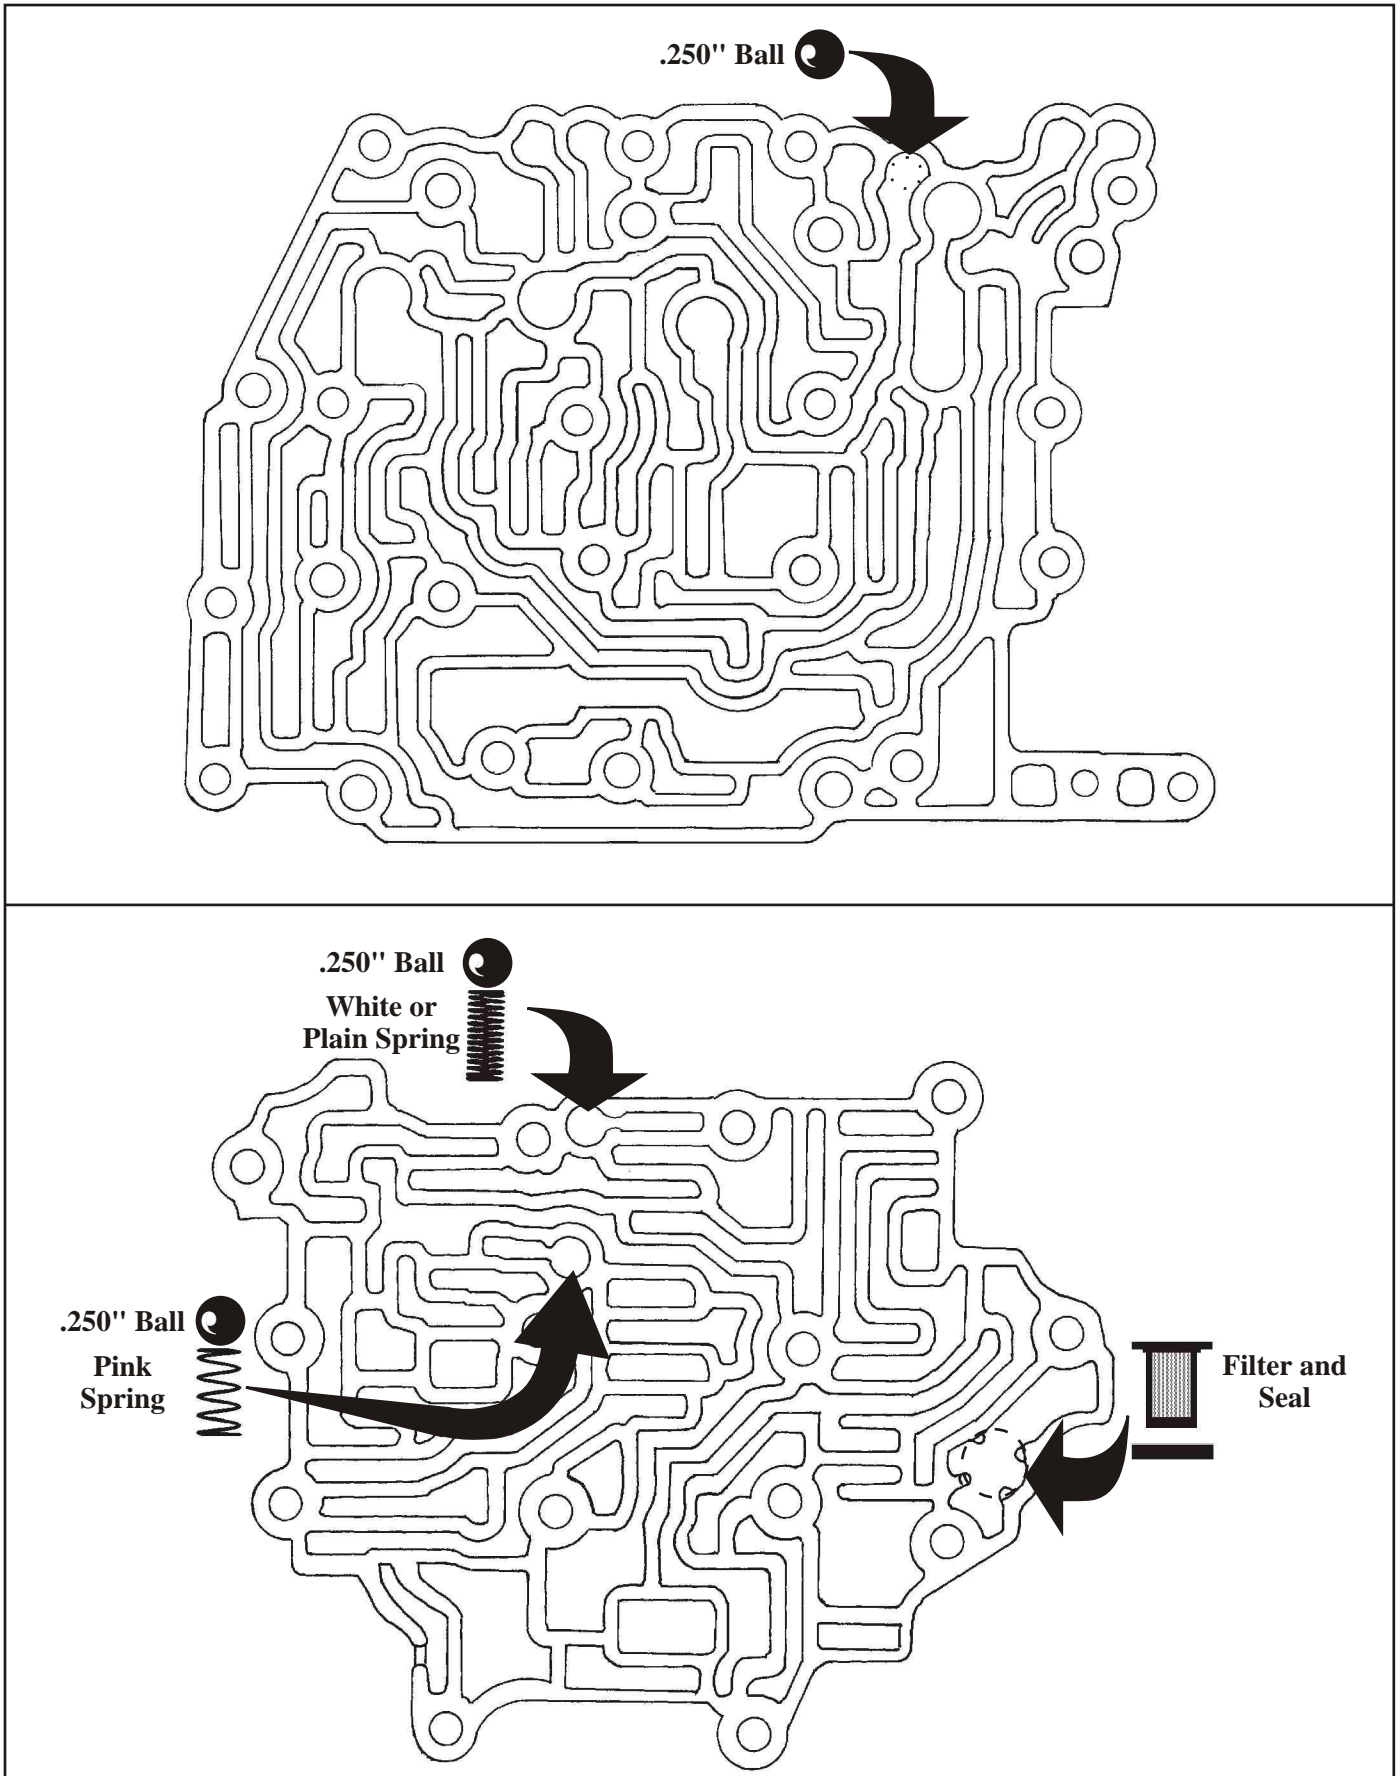

Figure 177
11. Use the illustrations in Figures 177 and 178 to place the check balls and retainers in their proper location.
**NOTE:** Replace the thimble filter seal as shown in Figure 177.